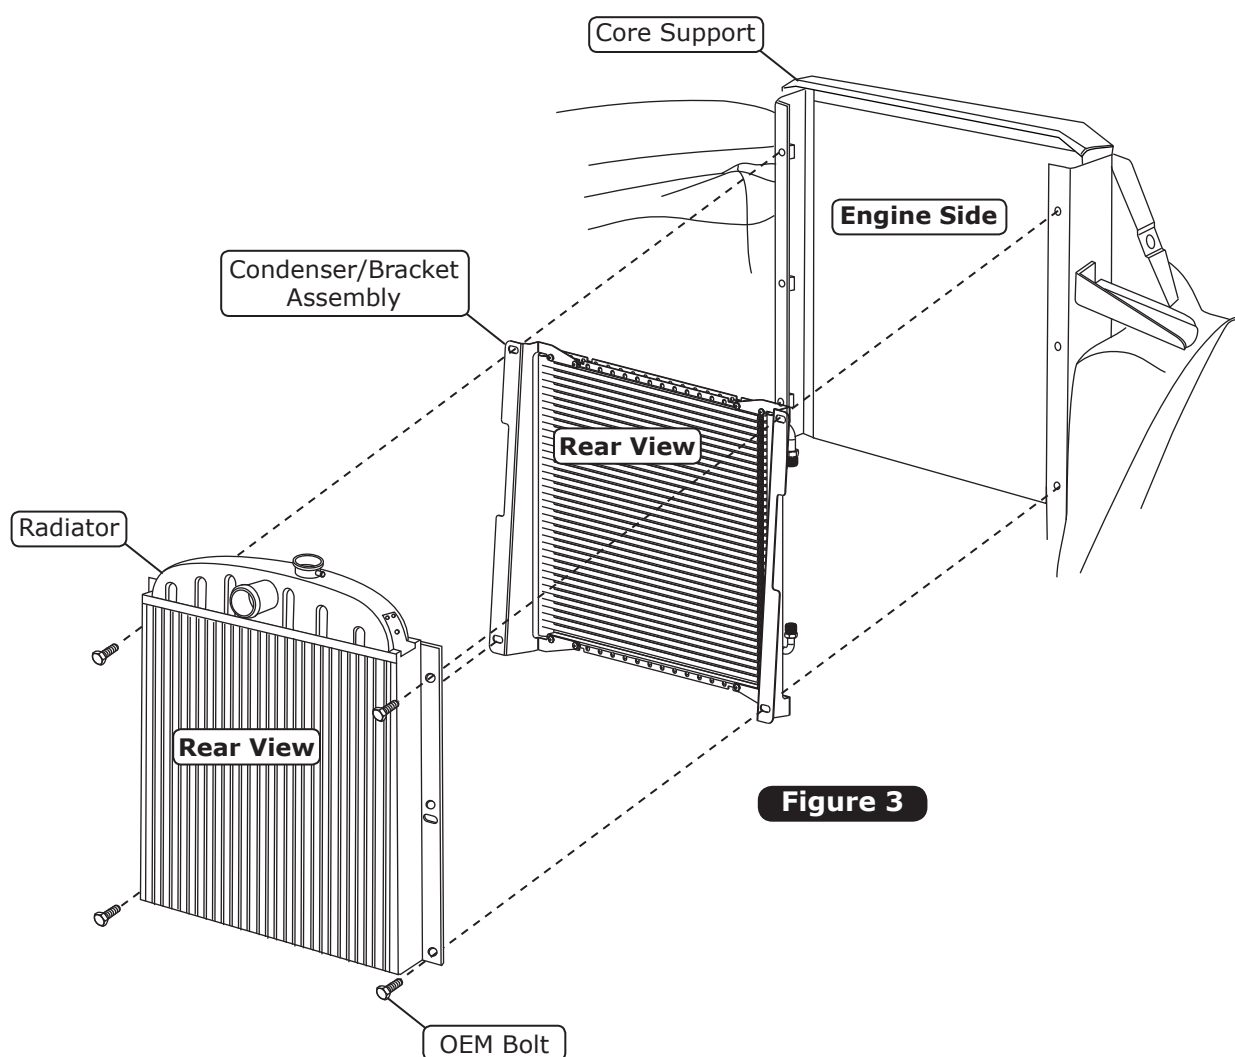

Figure 3
2. Slowly and carefully install the radiator behind the condenser as shown in Figure 3, below.
4. Using a line-up tool (for example, a #2 Phillips screwdriver), align the condenser, radiator and fan shroud with the top mounting hole of the core support. While temporarily leaving the line-up tool in the top hole, reinstall (4) OEM radiator mounting bolts (do not reinstall the center radiator mounting bolts).